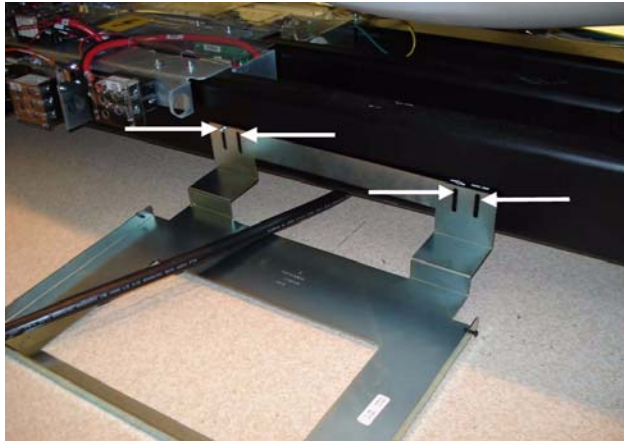

Figure 1-48 Rear Entry Cable Box
- 1.) Attach the rear entry cable box frame to the gantry base using four (4) screws that are shipped with the kit (see Figure 1-48). The assembly can be made to fit floor entrance conduit or surface floor duct.
- 4.) When finished, it should look like the lower picture in Figure 1-48.